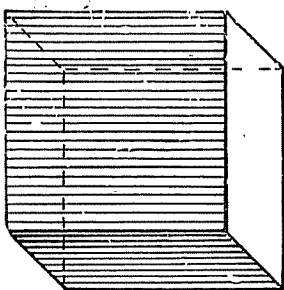

Fig. 21
**Crystal System**—Common form is the cube. (Fig. 21).